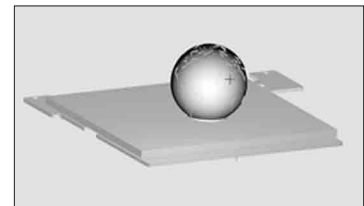

Fig. 78
- Hover over the shell you wish to select. (Fig. 78)